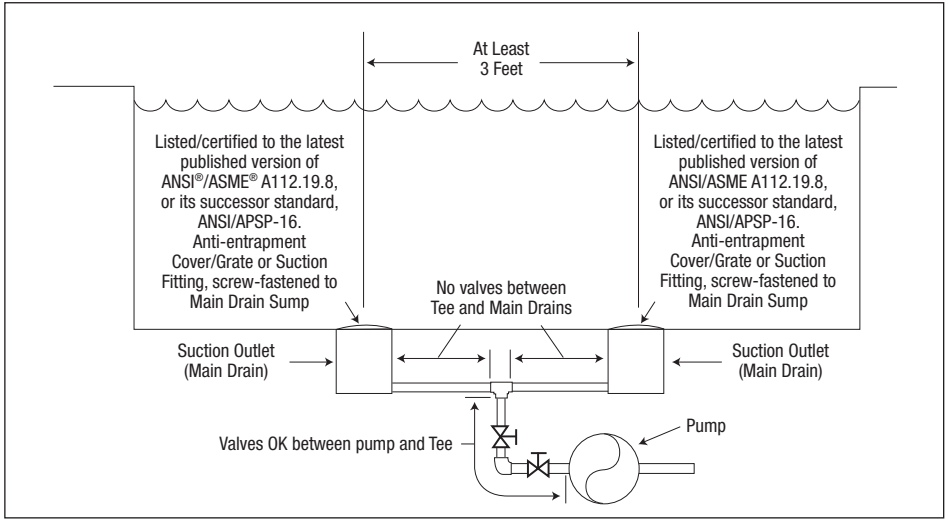

Figure 1. Number of Suction Outlets Per Pump*
The system *must* be built to include at least two (2) suction outlets (drains) connected to the pump whenever the pump is running. However, if two (2) main drains run into a single suction line, the single suction line may be equipped with a valve that will shut off both main drains from the pump. The system shall be constructed such that it shall not allow for separate or independent shutoff or isolation of each drain. See Figure 1.